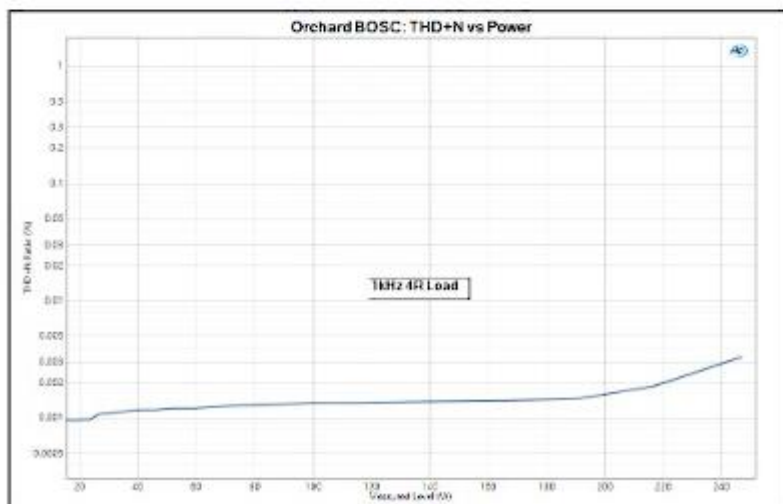
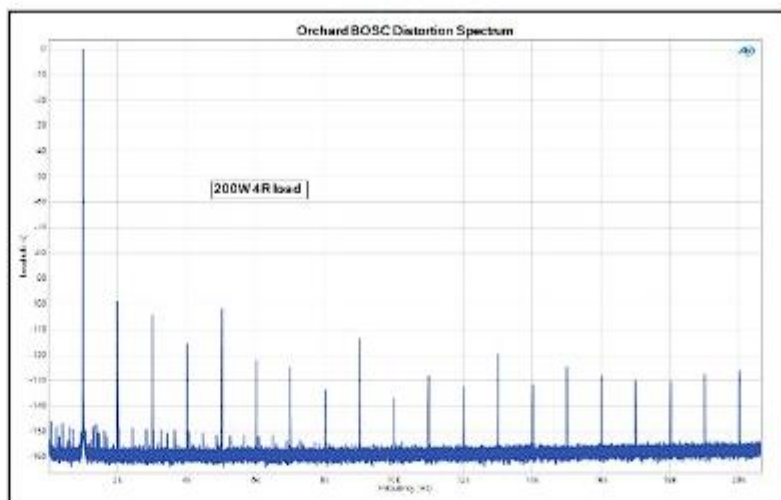

Figure 4: THD vs. power for the BOSC shows no signs of clipping up to 250 W.
Figure 5: The distortion spectrum of the BOSC at 200 W into 4  $\Omega$  is extremely clean, with the highest harmonic at 0.001%.
**Figure 4** shows THD vs. power at midband (1 kHz) into a 4  $\Omega$  load. My dummy load made unhappy noises as I hit 250 W, and the distortion was still under 0.004%. The spectrum of the distortion at 200 W is shown in **Figure 5**, and has second harmonic as the highest level distortion product at -100 dB (0.001%). Likewise, with a two-tone intermodulation signal at 19+20 kHz at 35 W, the sidebands are all below -100 dB, and the actual intermodulation product (1 kHz) is below -115 dB.